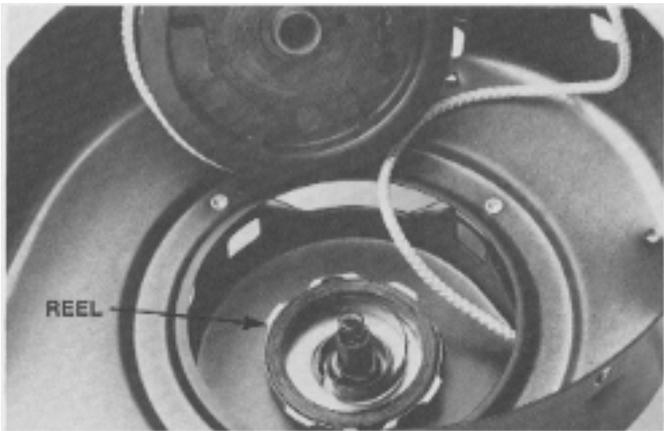

Figure 57
2. Place the reel assembly on the center post of the rewind starter and turn the reel counterclockwise until the hook on the reel spring engages the spring retainer on the center post of the starter. (Figure 57).